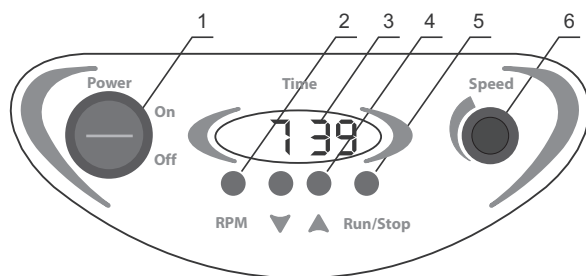

Fig.1 Control panel
- 4.3. Turn the **Power** switch (fig. 1/1) into On position, located on the front panel of Shaker (the display (fig.1/3) will light). In standby mode the display shows set time or set speed (when **RPM** key is pressed). In run mode the display shows operation time or actual speed (when **RPM** key is pressed).
- 4.4. Using the **▲** and **▼** keys (fig. 1/4) set the operation time using the display readings. The set time is indicated on the display in hours and minutes (hh:mm).
- 4.5. Set the shaking speed with the **Speed** knob (fig. 1/6) using set speed readings on the display. Speed readings are indicated on the display while the **Speed** knob is being turned.
- 4.6. Press the **Run/Stop** key (fig. 1/2). The platform will start shaking and the timer will start counting up the operation time.
- 4.8. The shaker can be stopped before the set time elapses if necessary by pressing the **Run/Stop** key (fig. 1/5). For 2 s the display will be showing the time the shaker has worked, and after that the set time.